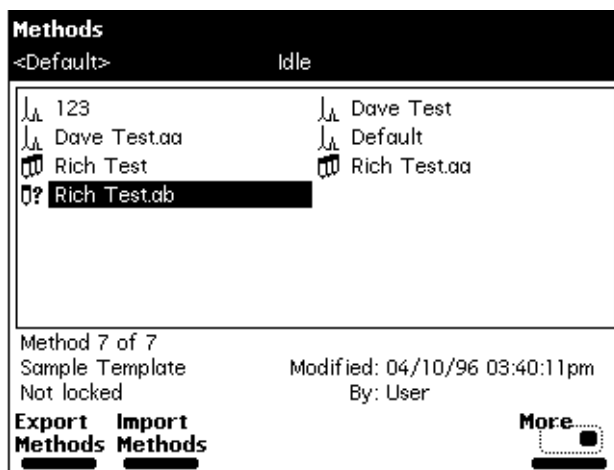

Figure 6-20 Methods Screen
2. Press the **Methods** screen key in the Main screen, then press the **More** screen key twice to access the Export Method and Import Method screen keys. The Methods screen appears, as shown in Figure 6-20.
- Press the **Methods** screen key in the Main screen, then press the **More** screen key twice to access the Export Method and Import Method screen keys. The Methods screen appears, as shown in Figure 6-20.